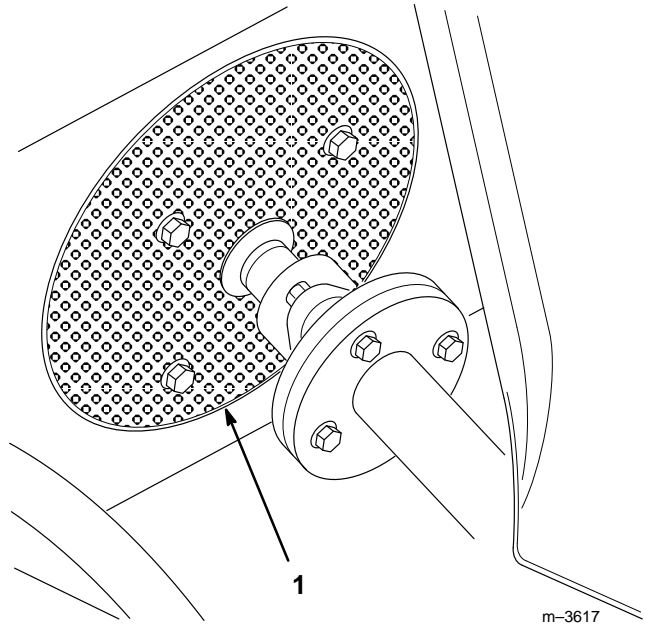

Figure 7
3. Wipe away any accumulated debris from the rotating air intake screen (Fig. 7).